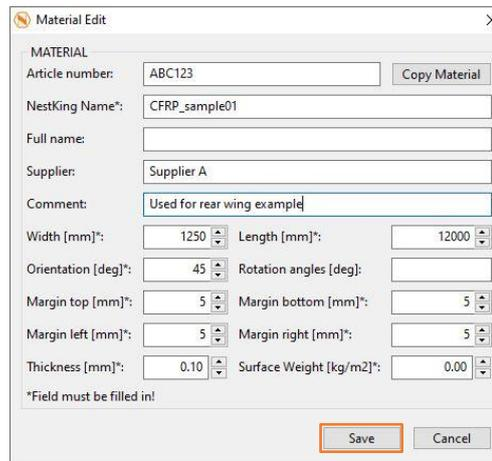

Figure 228
- Here in the Material Edit dialog we can add all relevant material data. For now, just copy the properties as shown on the right (Figure 228). To save all set material properties and click **Save**.